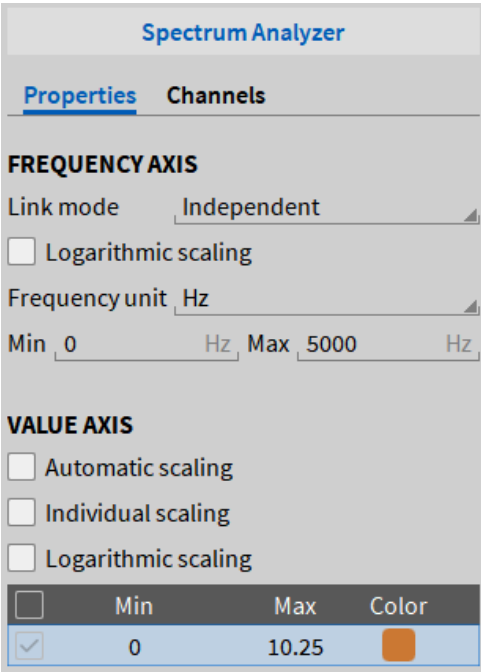

Fig. 8.53: Instrument Properties of the Spectrum Analyzer if Frequency Domain channels are assigned
- If frequency domain channels are assigned to the Spectrum Analyzer, the Instrument Properties are reduced to the Frequency axis and Value Axis settings (see Fig. 8.53). For details, refer to Additional instrument properties.